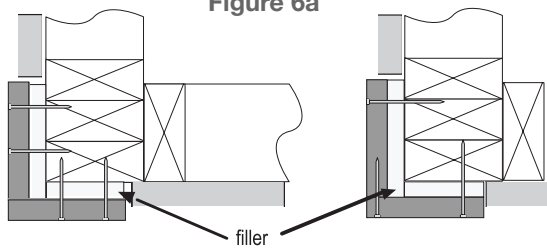

Figure 6d
3. Cover any exposed filler materials with a J-flashing Fig. 6d